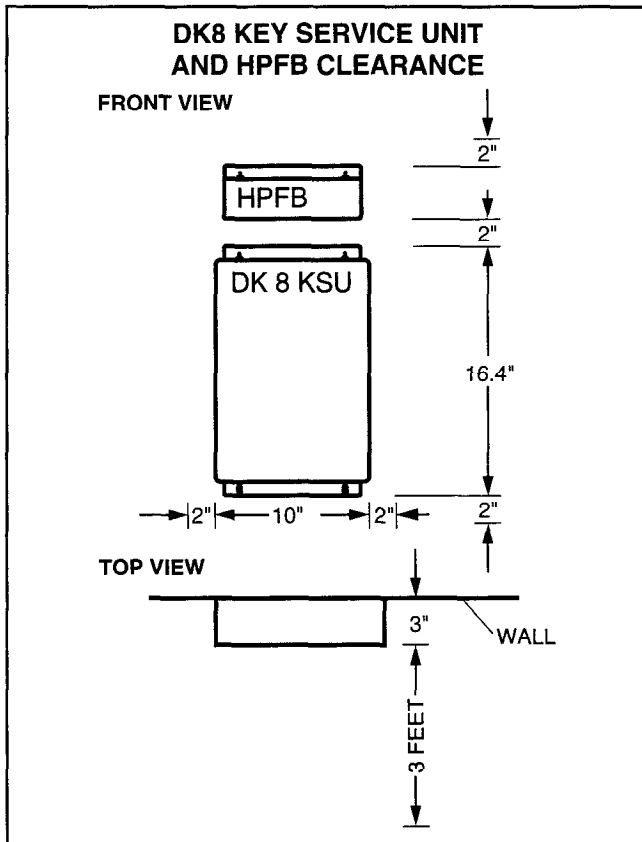
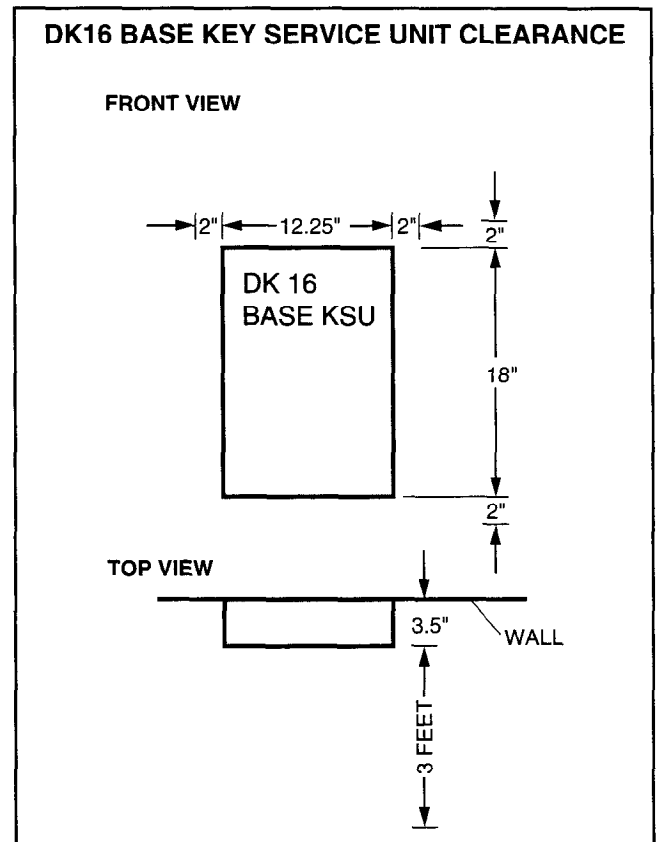

FIGURE 2-1
FIGURE 2-2
3.01 The key service units must be wall mounted. Figure 2-1 shows the minimum clearance requirements for the STRATA DK8 system, and includes the recommended mounting location and clearance requirements for the optional HPFB. Figures 2-2 (Base Key Service Unit) and 2-3 (Base and Expansion Key Service Unit together) show the minimum clearance requirements for the standard
3.03 If reserve power is to be installed for the STRATA DK16, the batteries will require a well-ventilated location close (within nine feet) to the DKSUB16 (the optional Toshiba-supplied battery cable is 9 feet in length). The STRATA DK8 reserve battery (HPFB) should be mounted directly above the DKSU8 as shown in Figure 2-1.